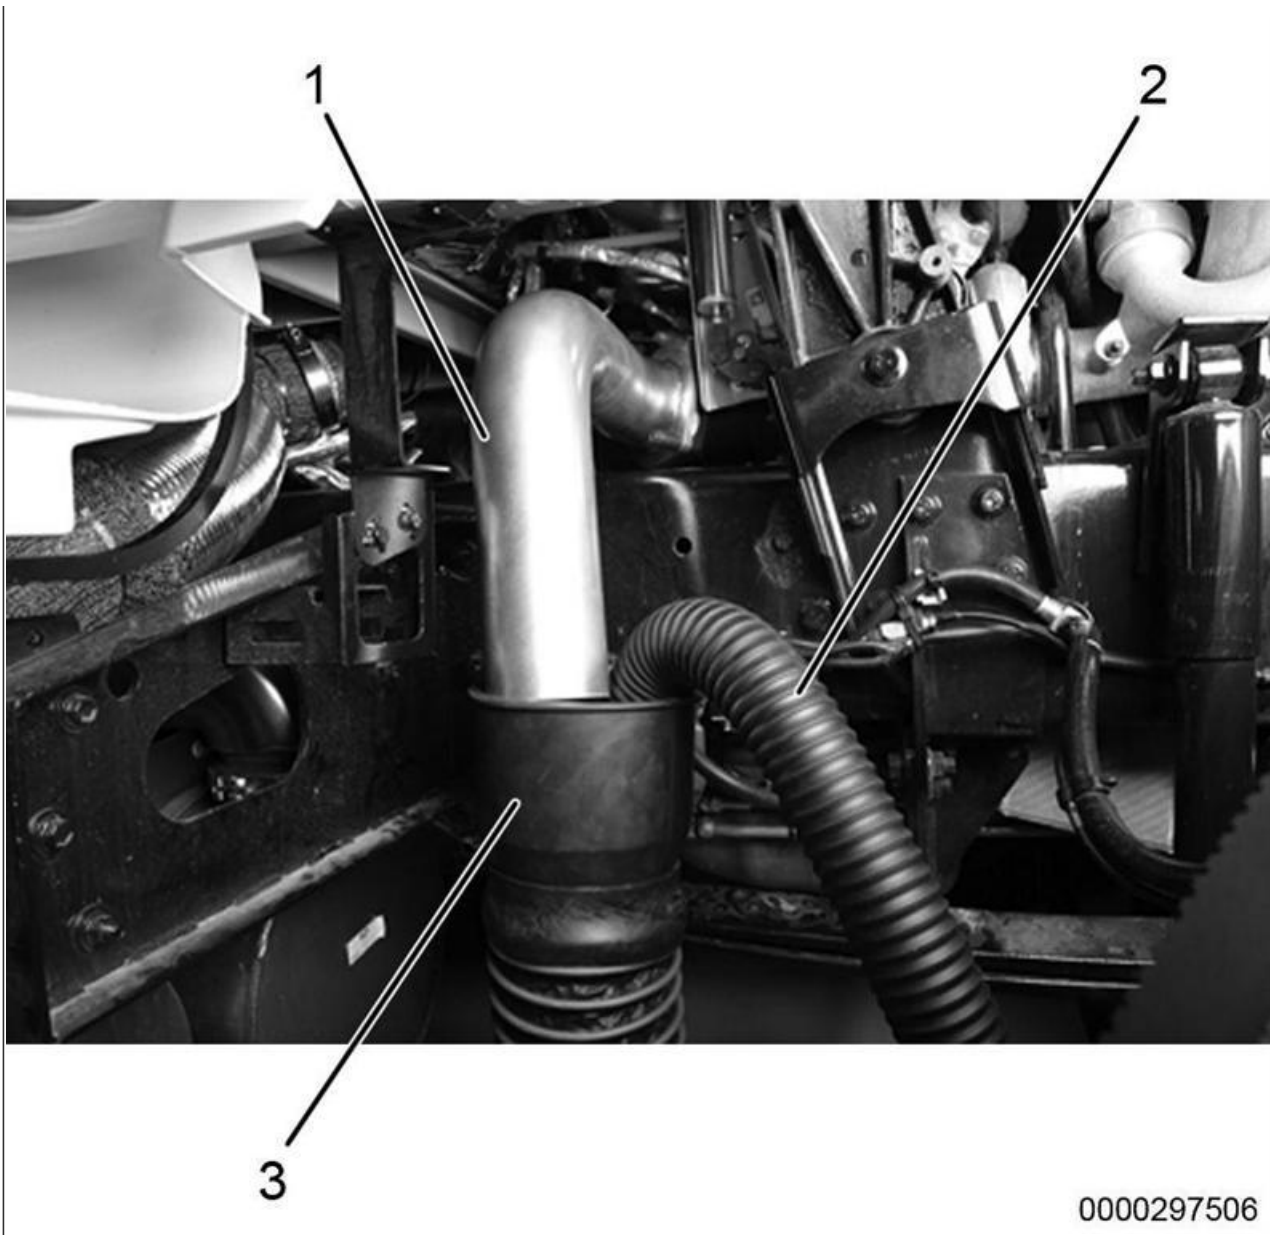

Figure 17: Exhaust Vent
47. Remove exhaust vent tube (Figure 17, Item 3).
48. Remove crankcase breather redirect tube from vehicle (Figure 17, Item 2).
49. Remove exhaust redirect pipe (Figure 17, Item 1). Do not discard spacers, bolts or gasket.